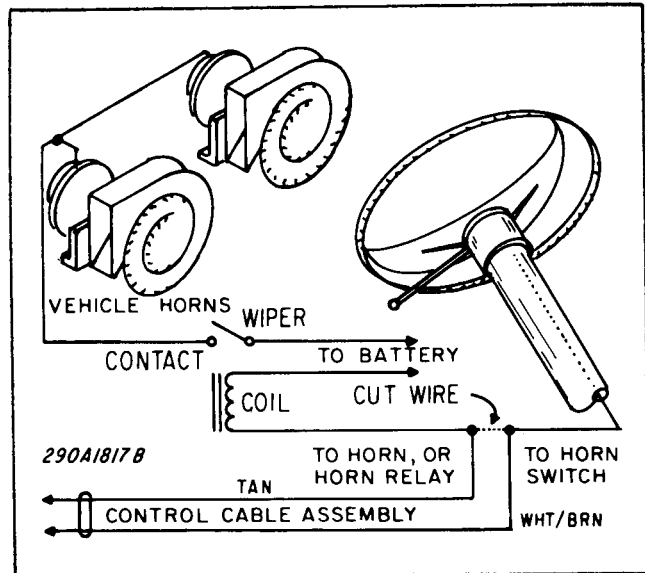

Figure 4. Horn Ring Connections.
d. Obtain a SPST relay (with a pull-in current less than 2 amperes) of sufficient contact current capacity to activate the vehicle horn. Refer to Figure 4 while performing the following steps.